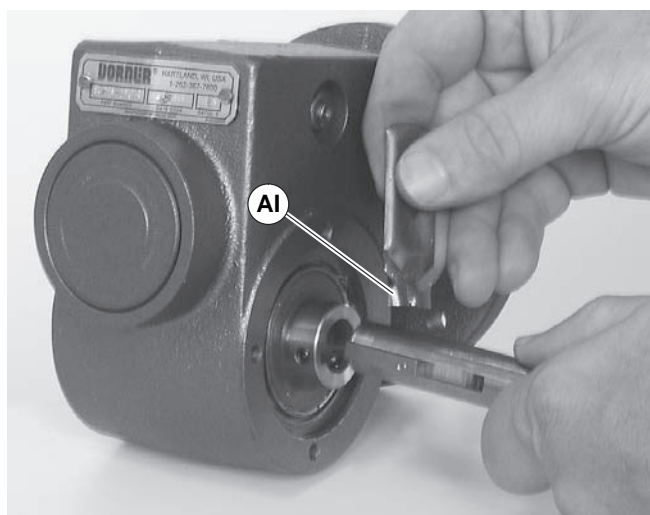

Figure 24
9. Apply grease (Figure 24, item AI) to shaft.